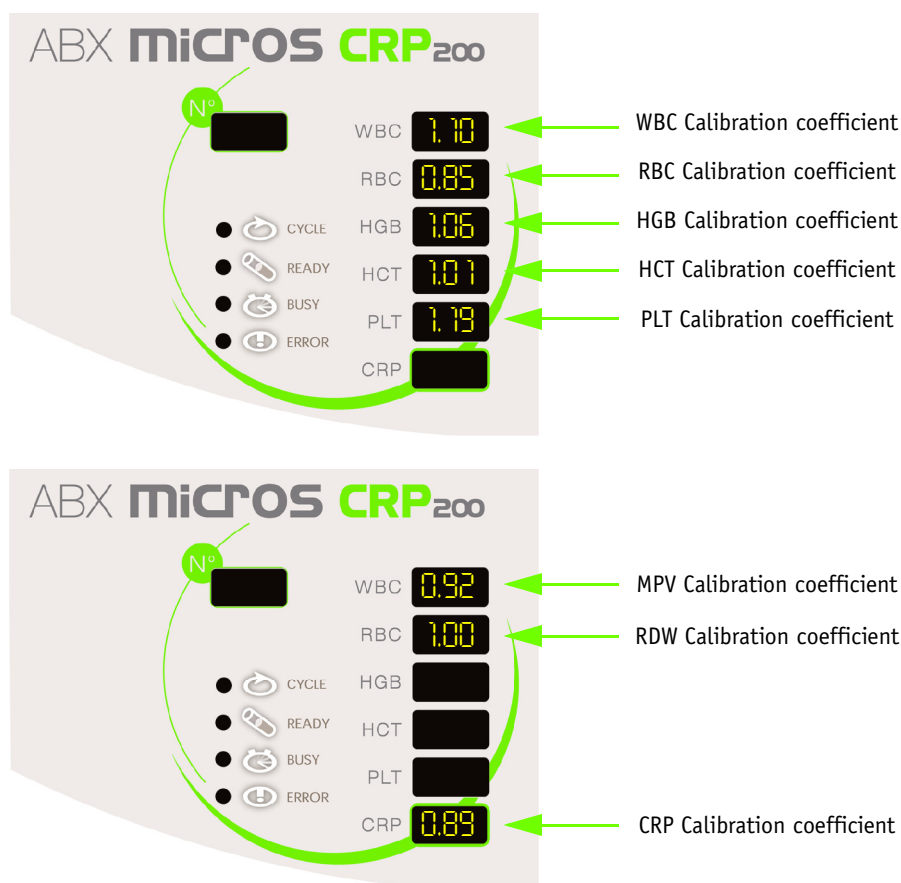

Fig.1: Coefficients
- ◆ Perform as described previously for HGB, HCT, PLT and MPV (See "Fig.1: Coefficients, page 4"):